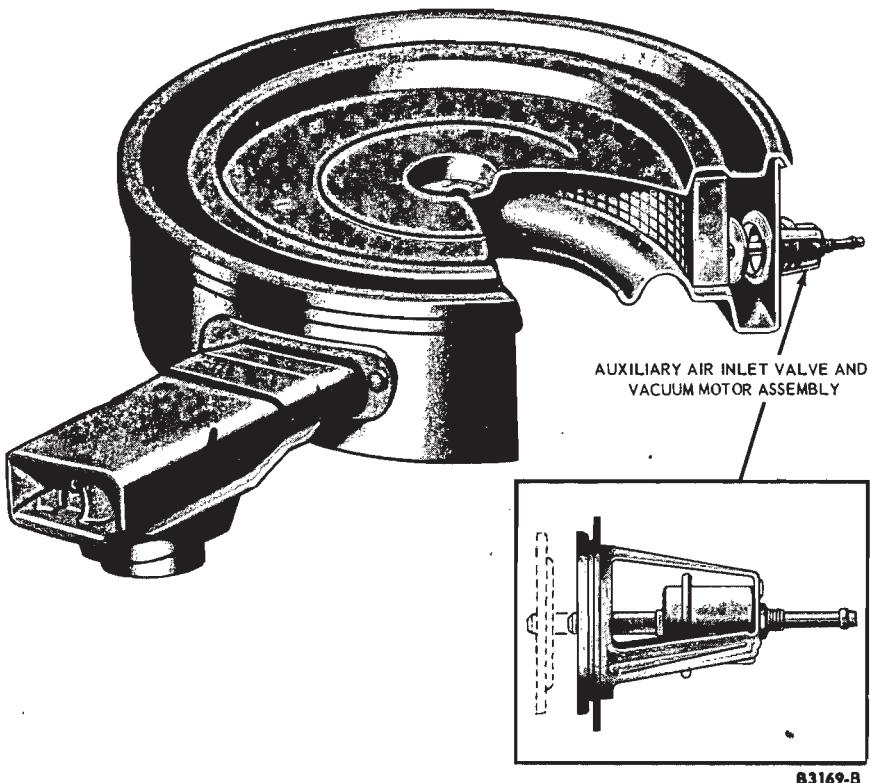

FIG. 3—Air Cleaner With Auxiliary Air Inlet Valve and Vacuum Motor
1. Start the engine, observe the vacuum motor plate. It should be fully closed (Fig. 3).